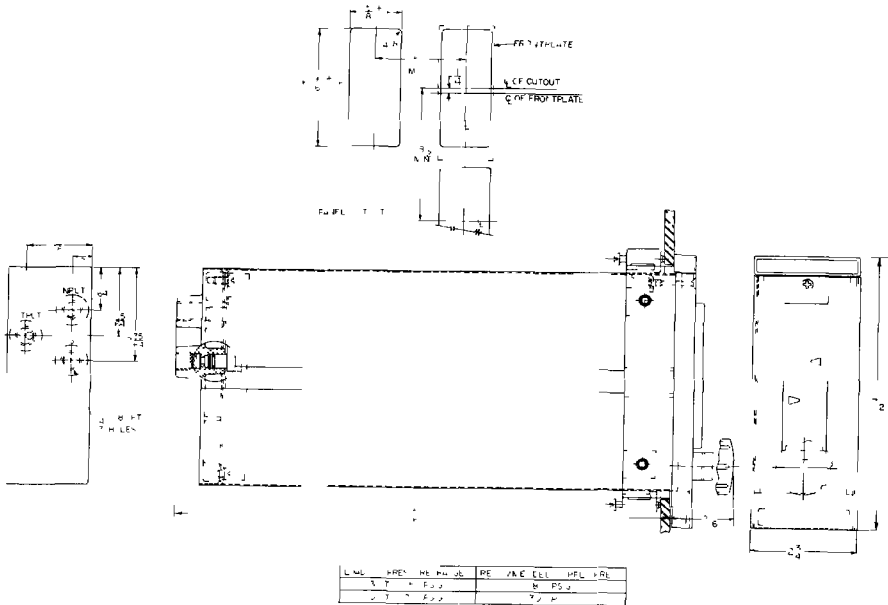

FIGURE 3 Manual Station Mounting Dimensions
Manual Stations are designed for plug in mounting in a panel mounted enclosure (Figure 3). Install enclosure as follows:
5 Make panel cutout in accordance with Figure 3.
10. Connect external tubing to manifold connections on rear of enclosure (Figure 3). Connections ports are 1/4 18 NPT female. Use 1/4 inch O.D. copper, aluminum, or plastic tubing.